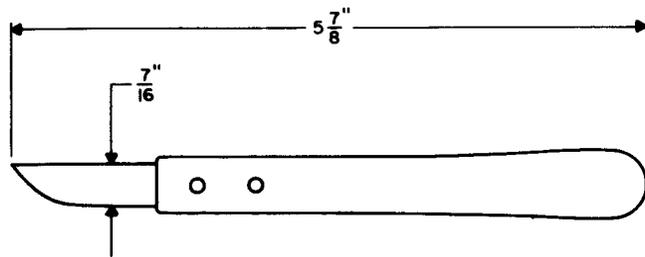

Fig. 6—490A Underlining Remover Tool
2.08 **490A:** The 490A underlining remover tool (Fig. 6) is used to remove underlining and multiple markings. This tool replaces the 113B tool.